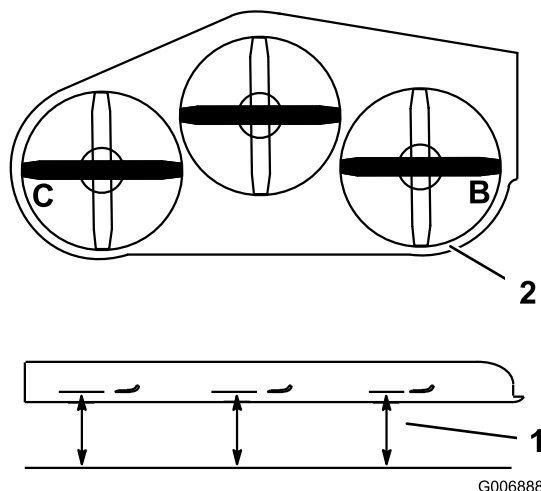

Figure 80
4. Measure at the **B** and **C** locations from a level surface to the cutting edge of blade tips (Figure 80).